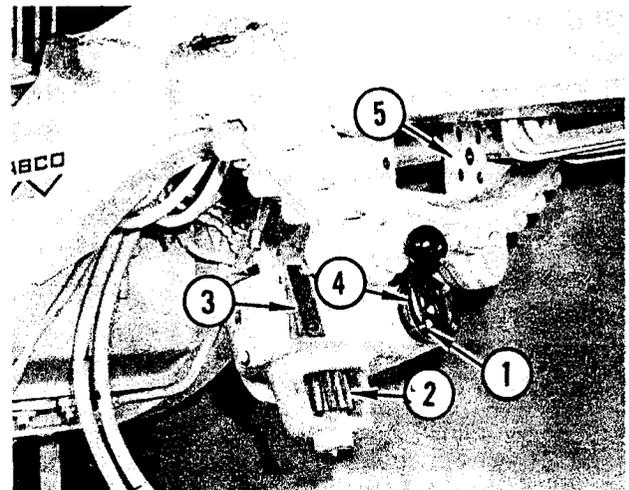

FIGURE 27. GEAR HOUSING REMOVAL
Refer to Figure 27. Move gear housing to rear until studs (1) have cleared L.H.